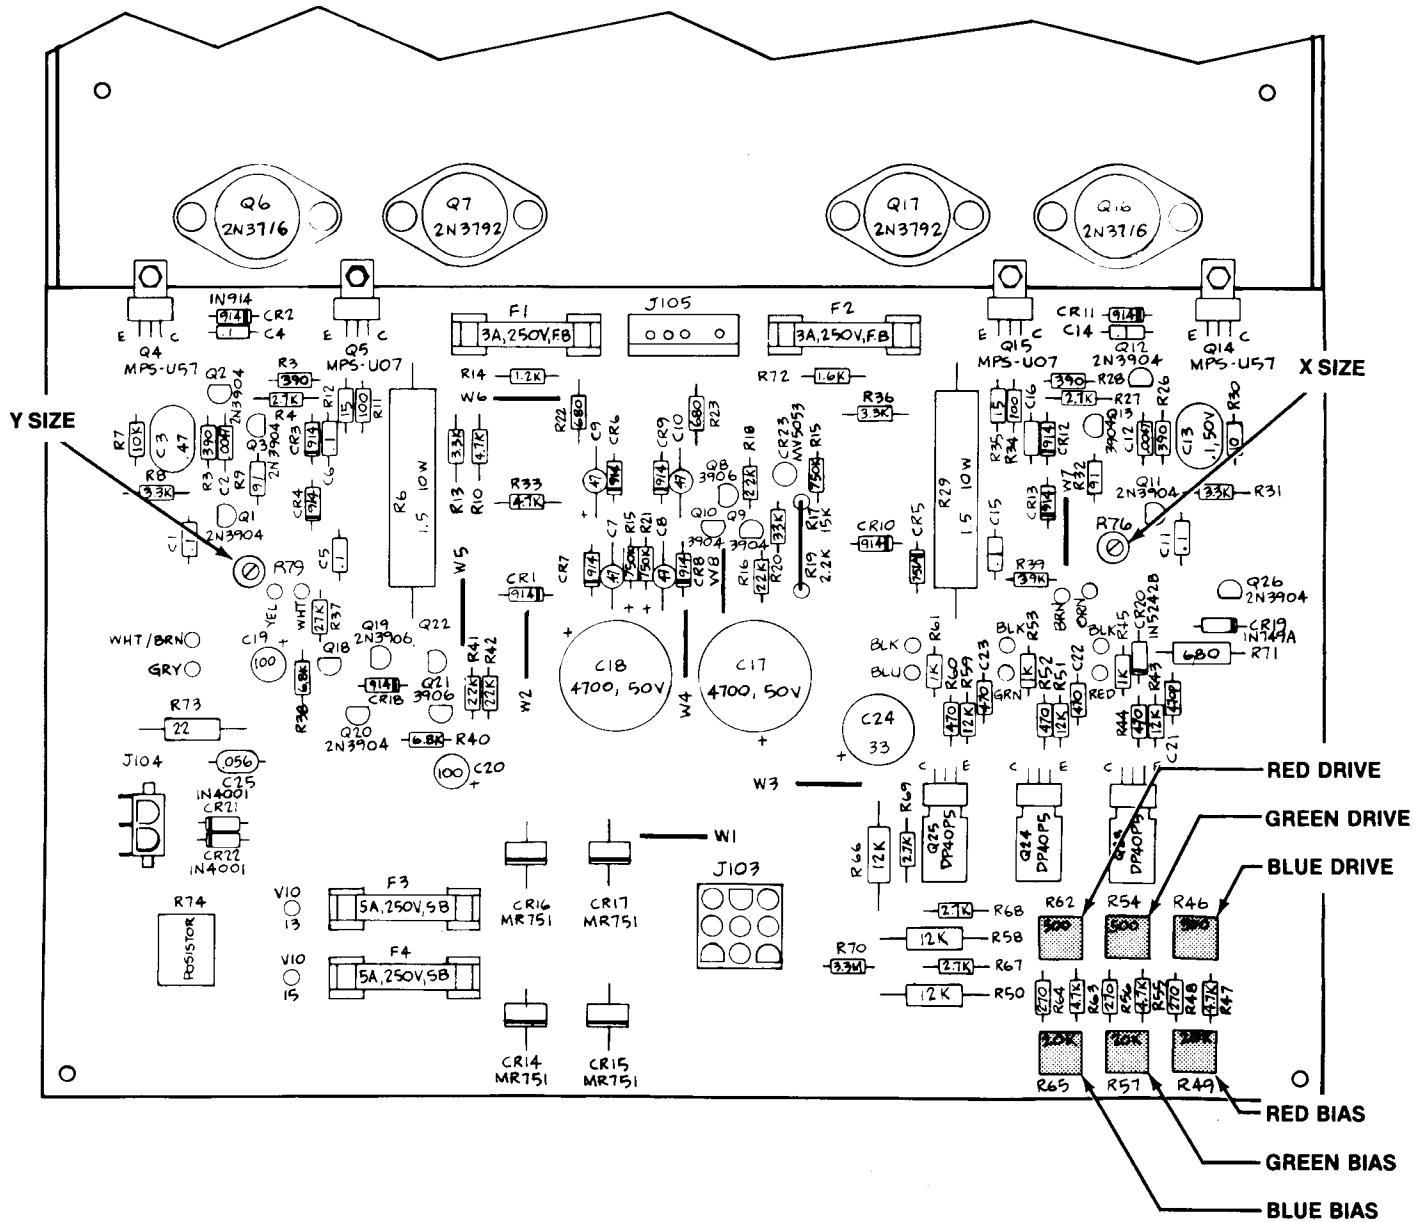

Figure 4 Adjustable Controls on the Deflection PCB
2. Turn all Bias and Drive controls to their fully clockwise position. Figure 4 shows the location of these controls.